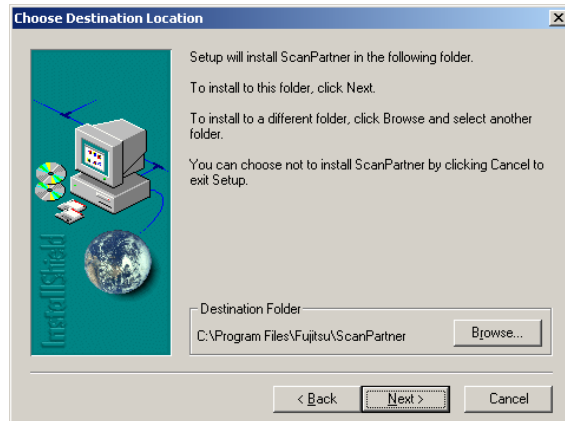

Figure 37.
- 8 Verify that the destination folder is correct and select **Next**, as shown in Figure 37.